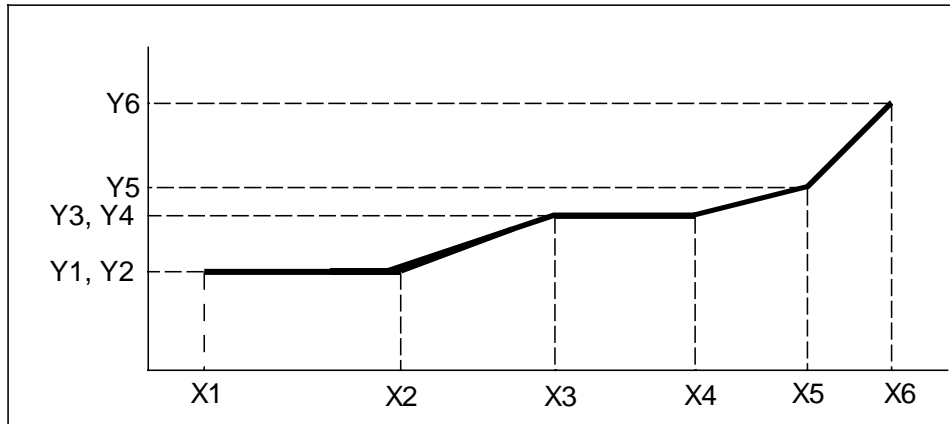
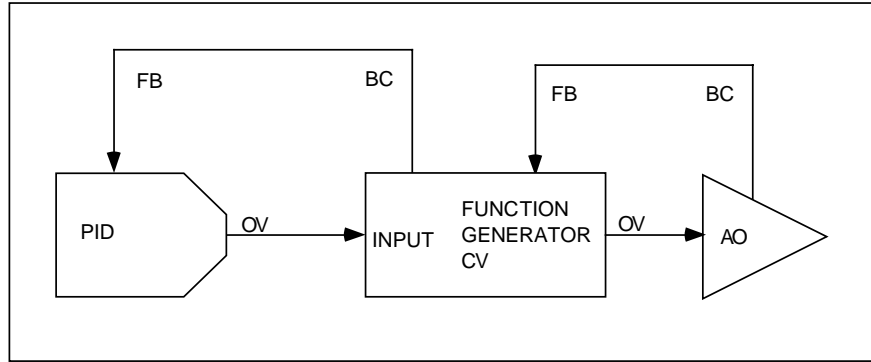
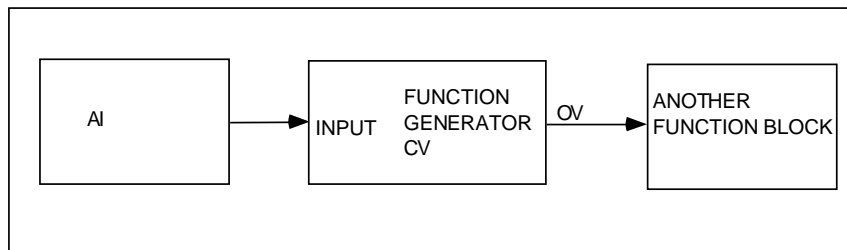

Figure 4-8 Function Generator Curve
Figure 4-9 Function Generator Configuration For Valve Characterization
Figure 4-10 Function Generator Configuration For Input Signal Characterization
This CV type can be used to characterize a valve (Figure 4-9) or an input signal (Figure 4-10). You enter a custom curve of up to 19 segments (20 X,Y coordinates). The input is compared with the X values and its corresponding Y value becomes the output CVn OV. Interpolation between coordinates is straight line. See Figure 4-8.
| FEEDBACK | OFF, analog parameter, number | For valve characterization, select AO# BC to propagate the back calculation (BC) value from a downstream Analog Output. Also, program the upstream loop's feedback with this CV's back calculation value (CV# BC). See Figure 4-9. Attention: If feedback is programmed to an analog parameter or a number, the X and Y values must define a curve that is not bell shaped or complex. That is, all Y values must be increasing or decreasing. |